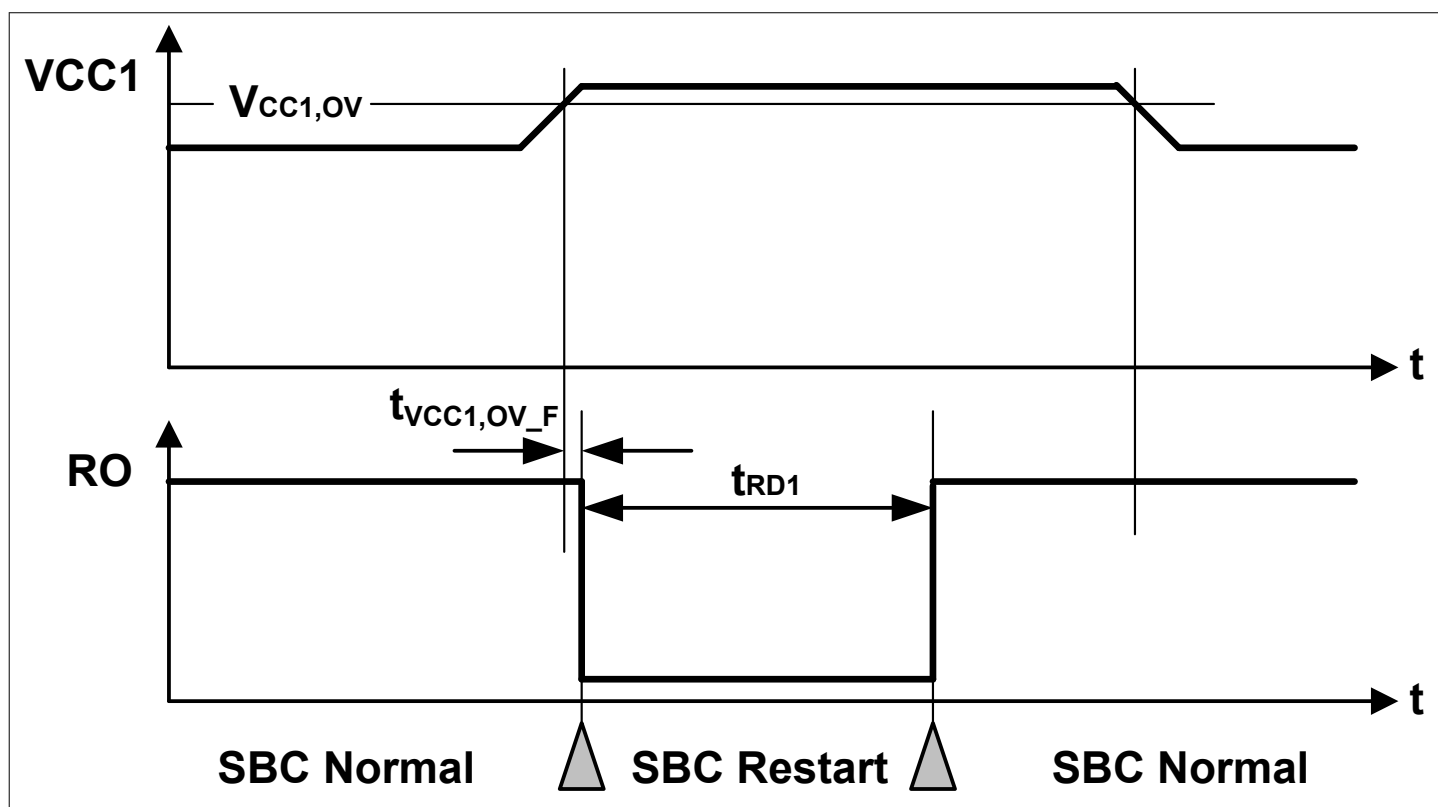

Figure 52 VCC1 Overvoltage Timing Diagram
- If the bit `VCC1_OV_RST` is set and `CFG_P` = '1', then SBC Restart Mode is entered. The FOx outputs are activated. After the reset delay time (`t_RD1`), the SBC Restart Mode is left and SBC Normal Mode is resumed even if the VCC1 overvoltage event is still present (see also Figure 52). The `VCC1_OV_RST` bit is cleared automatically;